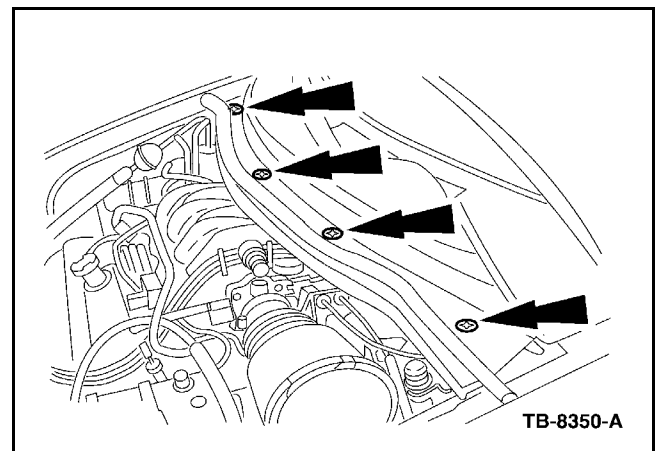

Figure 2 - Article 088-2005-5551
2. Remove the screws (Figure 2).